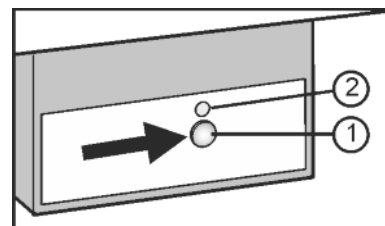

Fig. 20
- ▶ Press the On/Off button Fig. 20 (1) so that the LED Fig. 20 (2) shines.